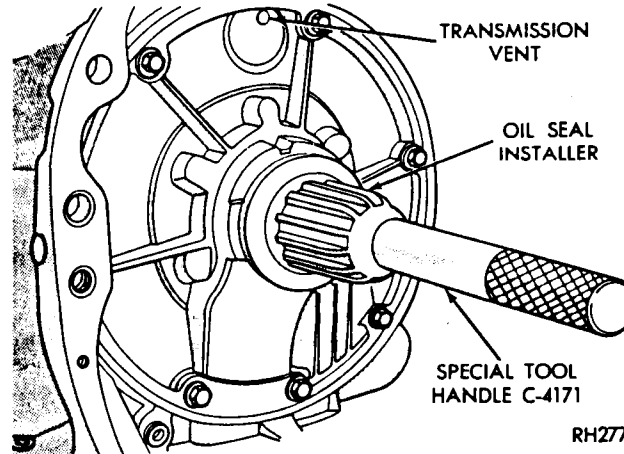

Fig. 4—Install Pump Oil Seal
(2) **A-904T and A-999:** To install a new seal, place seal in opening of the pump housing (lip side facing inward). Using Tool C-4193 and Handle Tool C-4171, drive seal into housing until tool bottoms (Fig. 4).